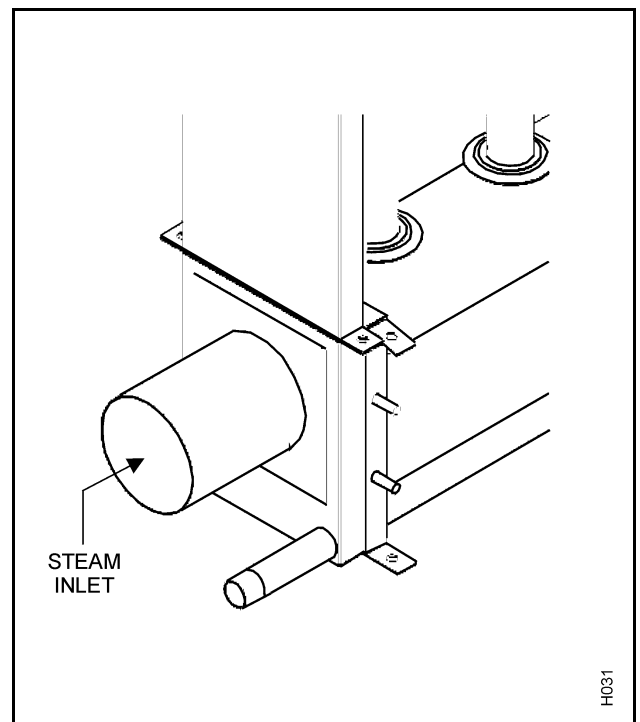

Figure 25. Steam Inlet
**(1) Atmospheric Steam (NH, GS, SE)**
- (a) The steam inlet, Figure 25, is determined by the selected humidifier. Refer to submittals, Chapter 10-30 to determine the size of steam outlet required.